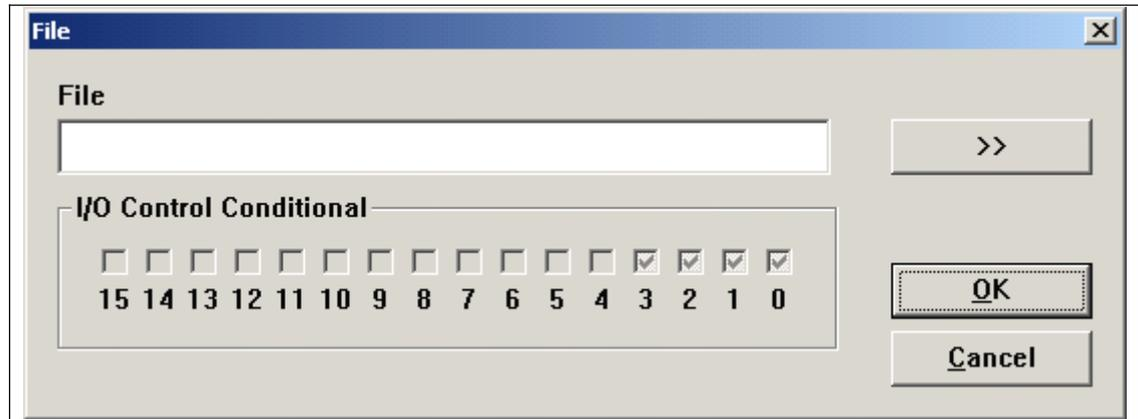
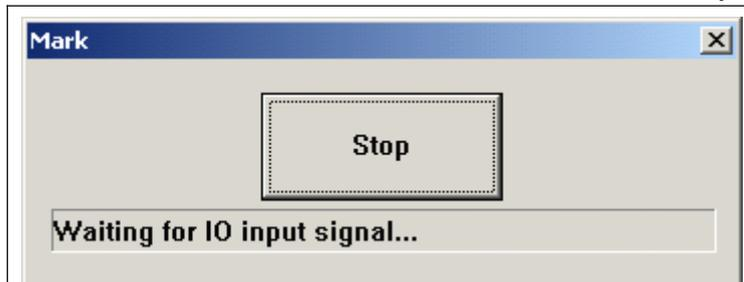

Figure 8-38
Figure 8-41
**Add:** Add .ezd files. The dialog box pops up as Figure 8-38 after click “add” button. Setting I/O control conditional for files, and automatically mark files when board accept the IO signal in mark status.
If must the accepting signals be pulse signals, should set IO port that doesn't show in figure 8-38 in start mark IO. For example, port 0-3 show in figure 8-38, should set other port in start mark IO, as port 6. Press mark , then pop up figure8-41. When the board accept the start mark IO and setting IO control conditional at the same time, the files will be marked only one time.